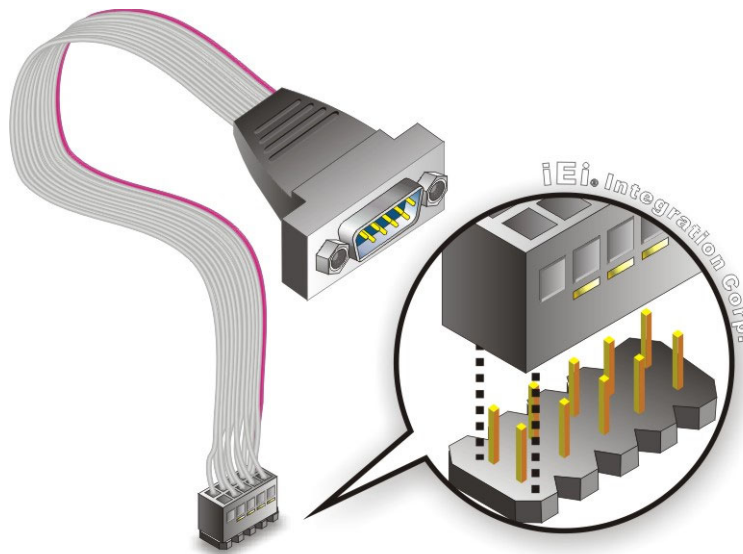

Figure 4-17: Single RS-232 Cable Installation
Step 2: **Insert the cable connector.** Insert the connector into the serial port header. See **Figure 4-17**. A key on the front of the cable connector ensures the connector can only be installed in one direction.